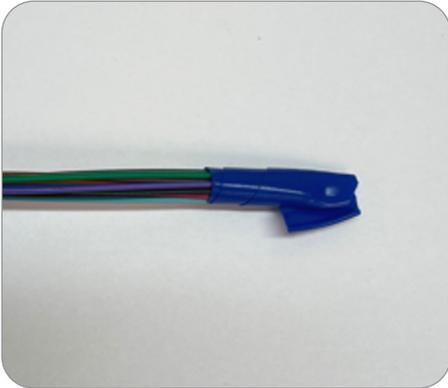

Figure 12
6. The non-terminated fiber end can be fed through the mesh easier by wrapping a piece of vinyl tape on the end of the fibers (Figure 12).